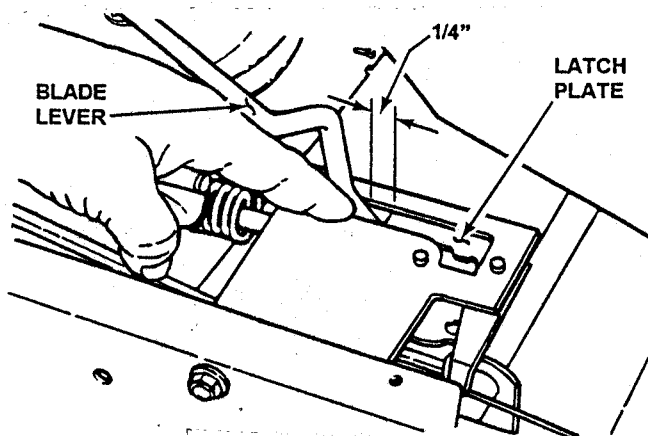

FIGURE 4.6
5. Depress blade pedals and measure the distance between front of blade lever and latch plate. The distance should be no greater than 1/4". See Figure 4.6.